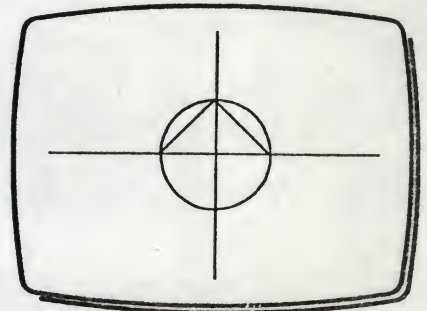

Fig 4
- 3 Select PAGE from the Menu. The drawing will re-appear at base page scale, and will include the added detail (Fig 4).